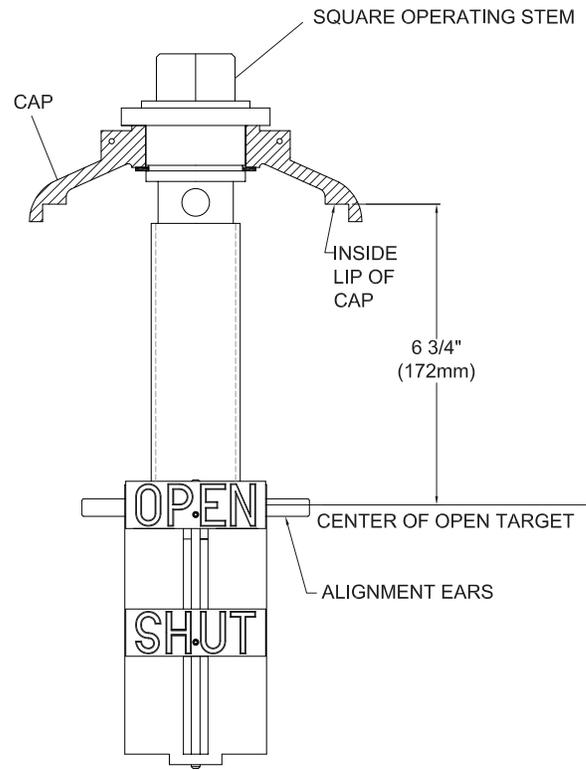

Fig. 7
- 6.1 Rotate Square Operating Stem (5) positioning the center of the OPEN Target Plate (8) until it is located 6¾" from the inside lip of Cap (2). See Fig. 7.